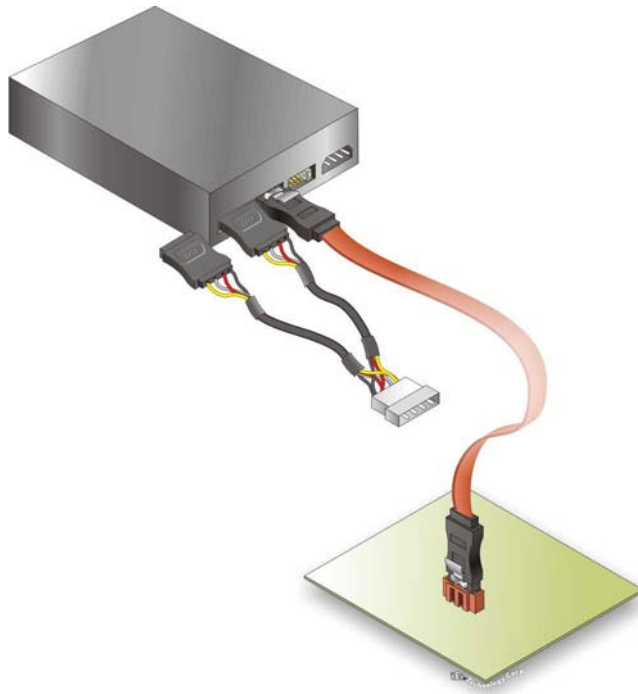

Figure 4-8: SATA Power Cable Connection
Step 3: **Connect the cable to the SATA disk.** Connect the connector on the other end of the cable to the connector at the back of the SATA drive. See **Figure 4-8**.
Step 4: **Connect the SATA power cable (optional).** Connect the SATA power connector to the back of the SATA drive. See **Figure 4-8**.